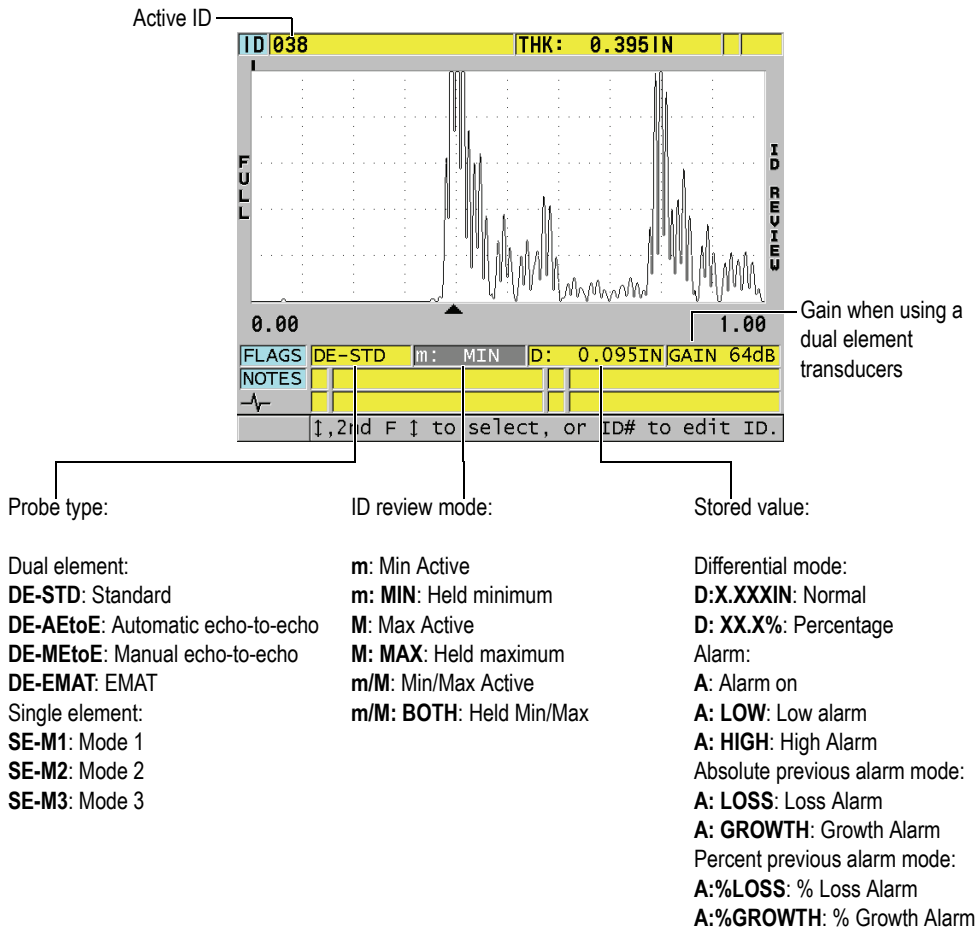

Figure 11-27 Identifying the ID review screen
Figure 11-27 on page 189 shows an example of ID review screen and describes its contents. The area under the waveform is reserved for status flags describing the displayed stored thickness values. The flags are the same single letter abbreviations for status words that are transmitted by the gage using the send commands (see section 14 on page 235).
3. While in the ID review screen (see Figure 11-27 on page 189):